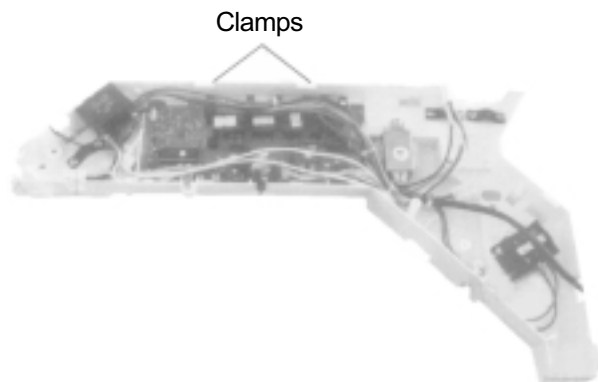

Figure 11
- ⑤ Disassemble the control board
- Push the two clamps as shown in figure 11, pull upwards the control board and remove it.